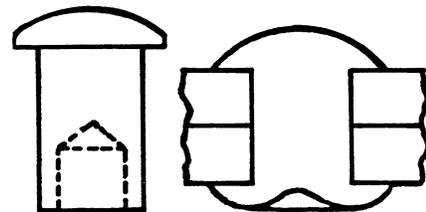

Figure 40.—Semitubular rivet. (From ref. 5.)
**Semitubular rivets:** The semitubular rivet (fig. 40) has a hole in the field end (hole depth to 1.12 of shank diameter) such that the rivet approaches a solid rivet when the field head is formed.